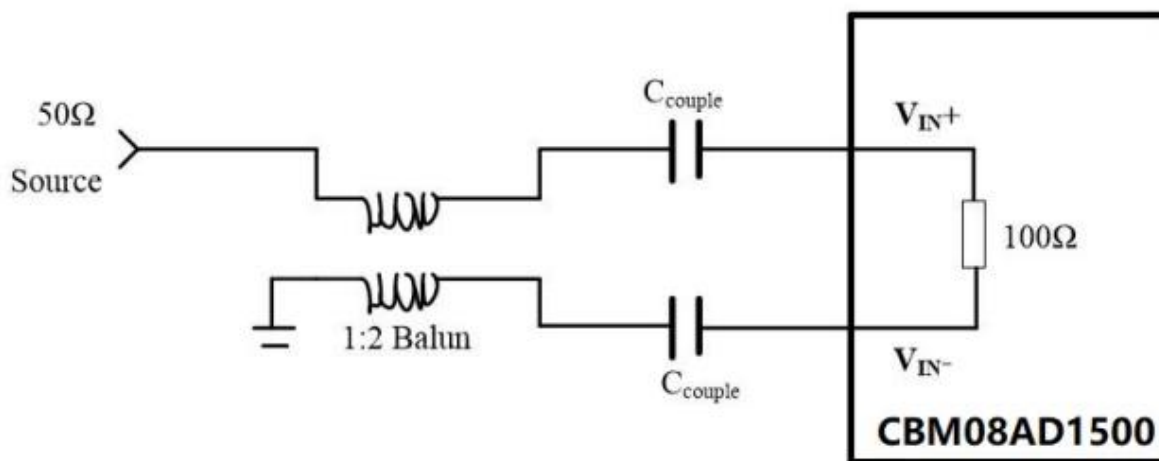

Figure 11. Single end to differential signal conversion
**a. Single ended input signal processing::** Because there is no circuit for single ended signal processing in the CBM08AD1500, it does not provide single ended input signal processing. The best way to process single ended signal is to convert the signal into differential signal before input to ADC. The easiest way to convert single ended signal into differential signal is to use an appropriate transformer with unbalanced connection, as shown in Figure 11.
The easiest way to convert a single ended AC input to a differential AC input is to use an appropriately unbalanced connected transformer, as shown in Figure 11. Figure 11 is a diagram of transforming single ended signal into differential signal by transformer. The characteristics of the transformer depend on the selection of the transformer type and the layout of the entire